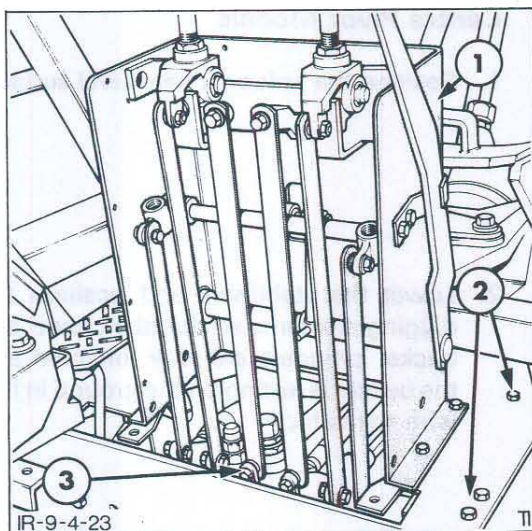

Figure 23
8. Disconnect the control valve operating linkage where it attaches to each control valve, Figure 23. On units installed with extendible dipstick, similarly disconnect the pedal linkage from the valve.